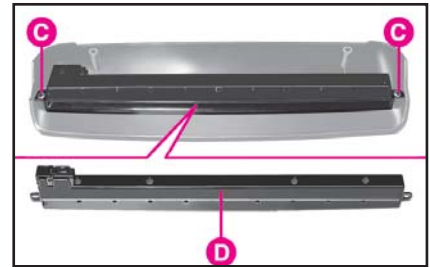

fig. 24
- 4) Take the **D** light group by removing the **C** bolts in **Fig. 24**.